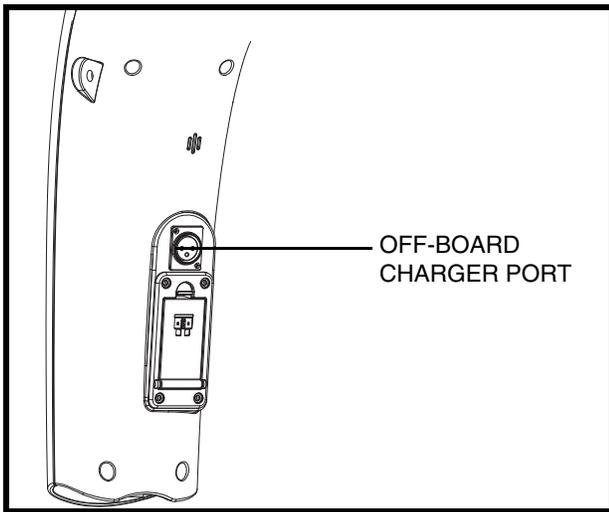

Figure 5. Off-board Charger Port
The off-board charger power lead plugs into this port during battery charging. The off-board charger port is located on the tiller. See **figure 5**.
4. Plug the 3-pin charger power lead into the off-board charger port. See figures 5 and 10.